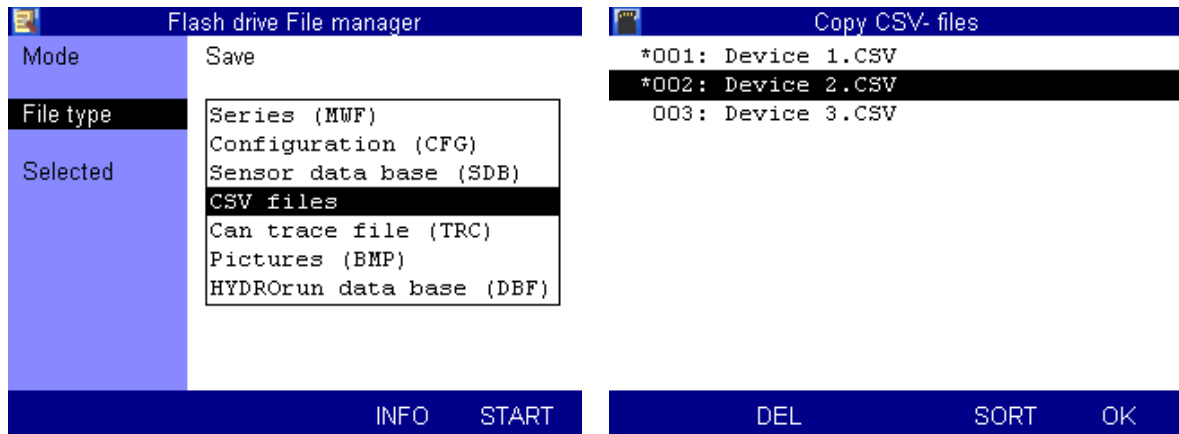

Figure 22: left: Selection of the file type: right: Selection of the measurement files
- In "Save" mode, select the "CSV files" entry on the FileType tab (see Figure 22, left).